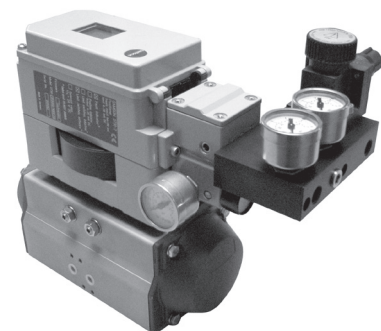

Fig. 2: Type 3710 Reversing Amplifier, Type 4708-54 Supply Pressure Regulator with Type 3730 Positioner mounted on a rotary actuator
- With one pressure gauge for Y_2 when used with Type 4708-54 Supply Pressure Regulator (see Fig. 2)